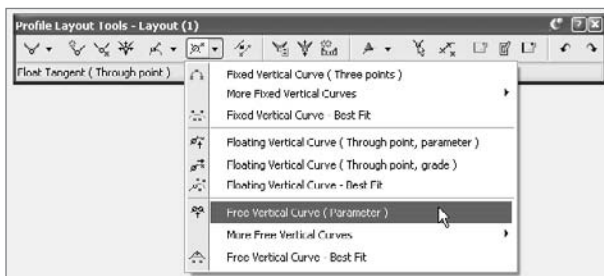

Figure A.60
16. Click the down arrow next to the tool labeled Draw Fixed Parabola Tangential to End of an Entity and Passing through a Point, and then select the Free Vertical Curve (Parameter) option as shown in Figure A.60.